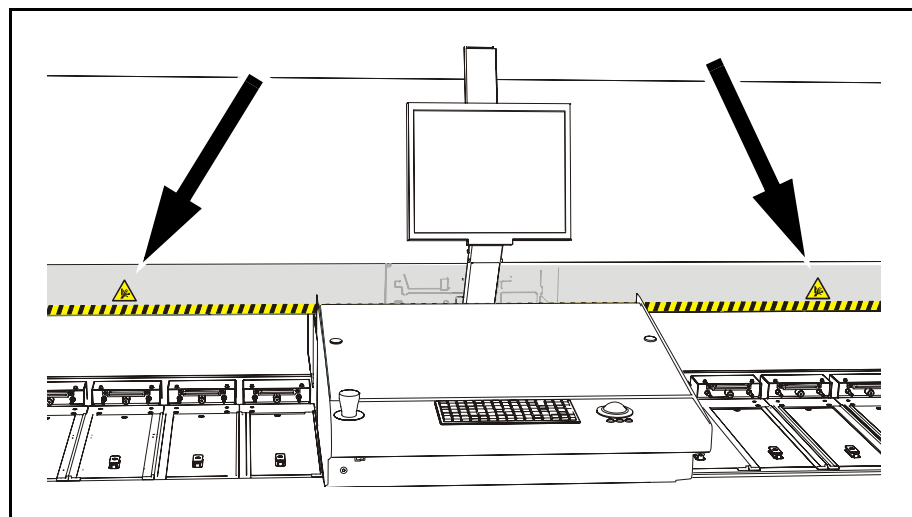

Figure 1-4. Warning signs and striped tape on the front glass.
- Two signs on the front glass shield, see Figure 1-4.